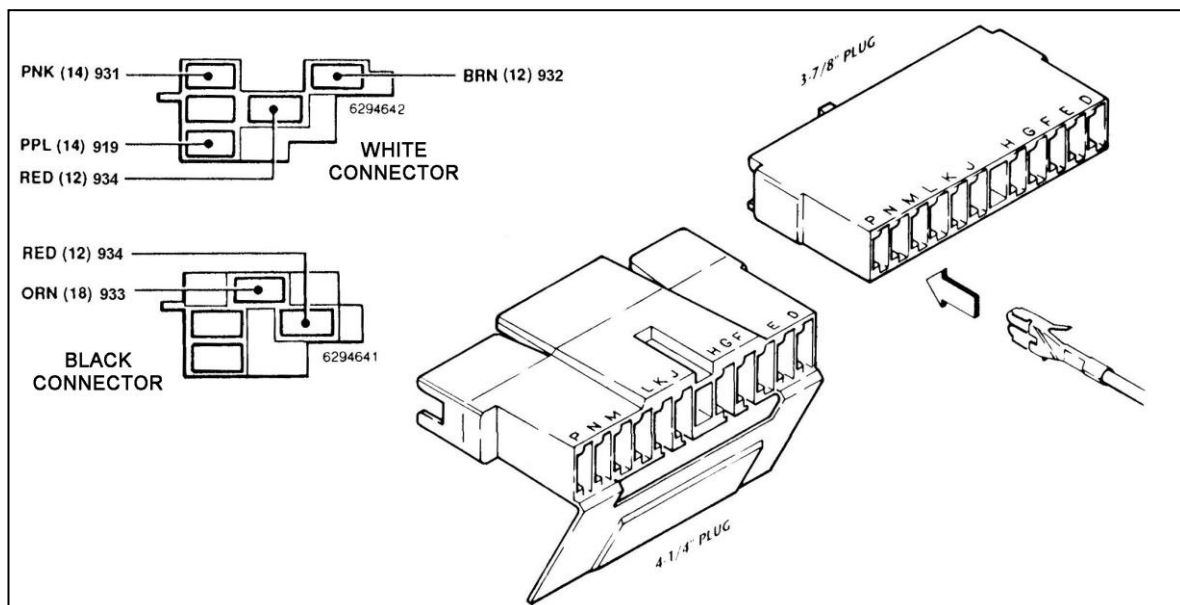

Figure 7-5 GM Turn Signal Connectors
7.4.1 There are two different plugs on most tilt columns. The difference is in the length of the male plug that is mounted ON THE COLUMN. One plug is 3-7/8" (3.875") long and the other is 4-1/4" (4.250"). This is only a difference of 3/8" (0.375"), so measure the plug carefully. The Wire Harness Kit has included two different female connectors to mate with the column-mounted plug. See **Figure 7-5** to determine which female connector is correct for your automobile.
The TURN SIGNAL SECTION wires may have already been terminated for you. If not, cut wires to length and install the terminals provided. Choose the proper plug and install the terminals according to **Table 7-1**, as shown in **Figure 7-5**. The GM wire color codes have been included for reference. **Note:** The terminals will only insert into the connector ONE WAY, as shown in **Figure 7-5**. Make certain you are inserting the wire into the CORRECT LOCATION as the terminals are difficult if not impossible to remove once inserted.
- 7.4.2** The Steering Column Wiring comes with GM ignition switch connectors pre-wired. See **Table 7-1** and **Figure 7-5** for color codes, wire numbers, and wire designations for the Ignition Switch Connectors.